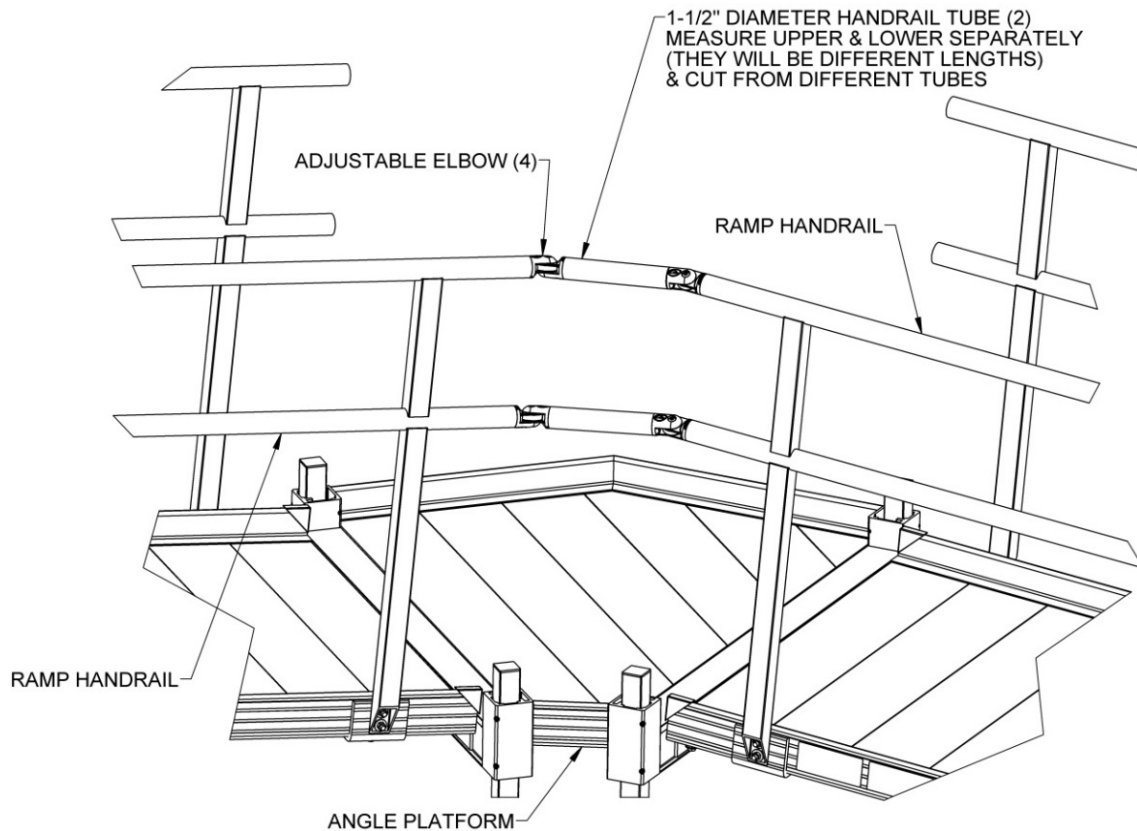

FIG. 4
- 4.2. Install and align the adjustable elbows. Measure and cut the 1-1/2” diameter handrail tubes connecting the ramp handrails as described in SECTION 5, CONNECTING HANDRAILS WITH ADJUSTABLE ELBOWS. FIG. 4 shows the completed connection.